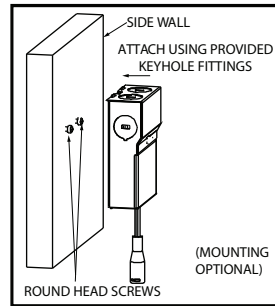

Figure 5 / Figura 5 / Schéma 5
- **MUST follow local electric code** for rigid attachment and placement of the remote driver box. (Figure 5)